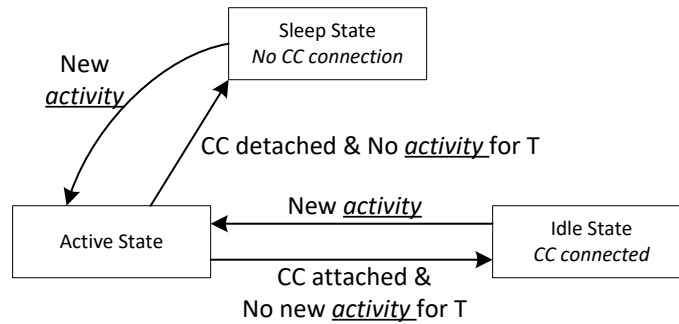

图 9-32. Flow Diagram for Power States
(1) See I²C Address Setting to see the exact meaning of I²C Address Index.
(2) See Pin Strapping to Configure Default Behavior for how to configure a given ADCINx decoded value.
The TPS25750 can operate in one of three different power states: Active, Idle, or Sleep. The Modern Standby mode is a special case of the Idle mode. The functionality available in each state is summarized in 表 9-6. The device will automatically transition between the three power states based on the circuits that are active and required. See 图 9-32. In the Sleep state, the TPS25750 will detect a Type-C connection. Transitioning between the Active mode to Idle mode requires a period of time (T) without any of the following activity: